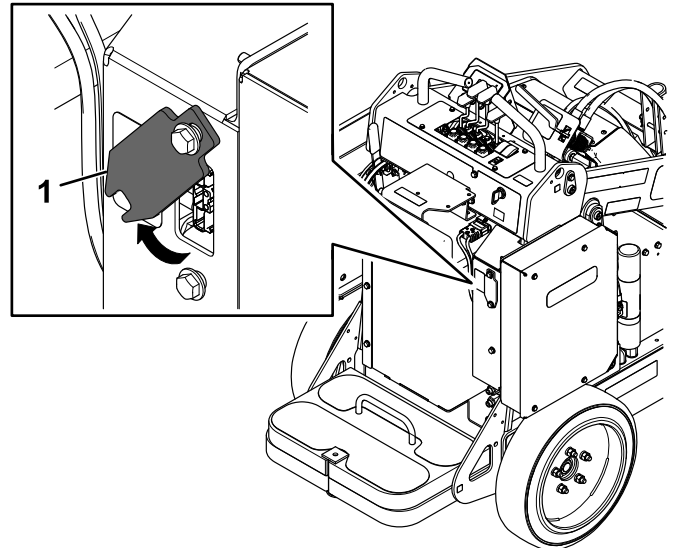

Figure 23
6. Slide the charger cover up and pivot it out of the way (Figure 23).
10. Pivot the charger cover in place and slide it down over the lower bolt (Figure 23).